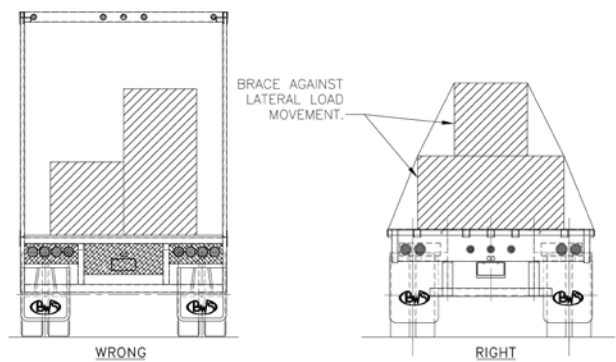

Figure 6
2. Crosswise weights should be equally distributed (Figure 6) . A heavy load should not be placed on one side. This will overload suspensions and tires on that side. Place load so that weight will be equal on rear tires, eliminating possible twisting of the frame and overloading of axle housings and wheel bearings.